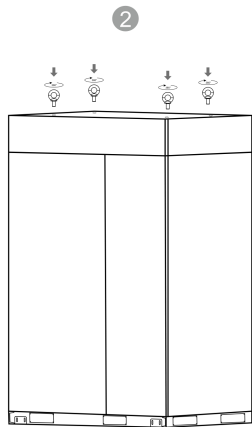
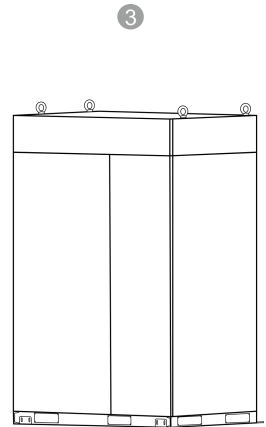

Figure.2
Figure.3
2. Insert the four eyebolts into holes on the top of the machine and then turn them clockwise until they are secured firmly. See the Figure.2 and Figure.3.